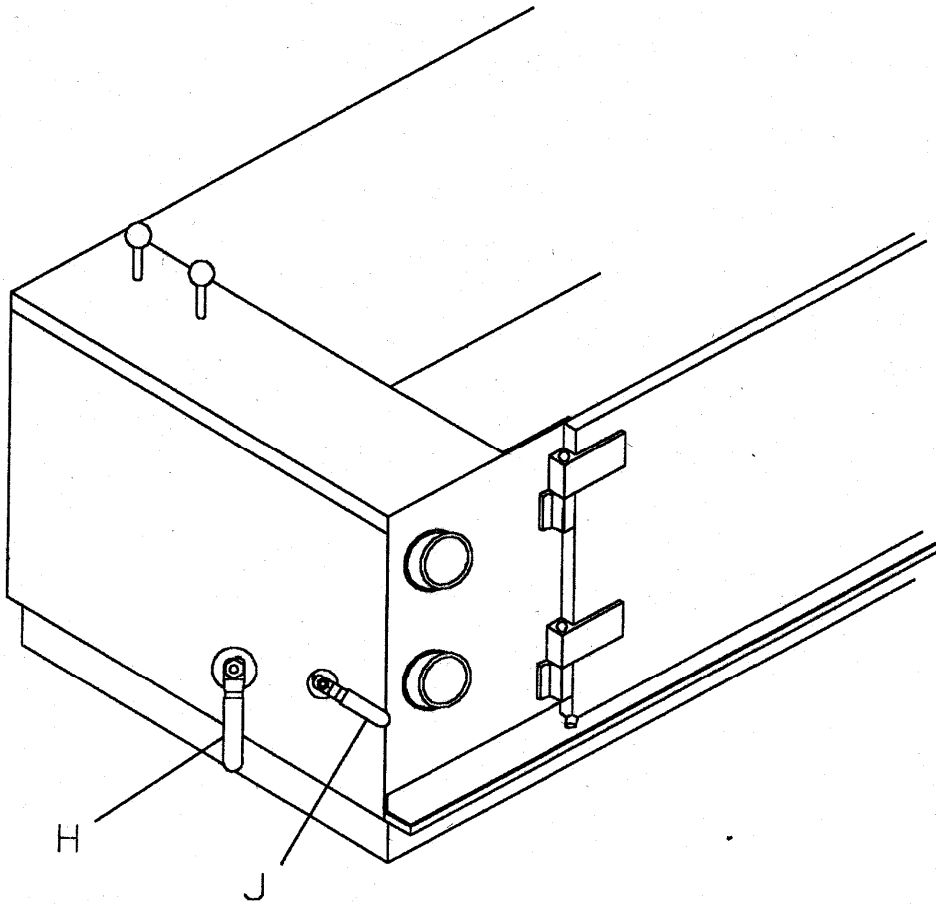

FIG. 4-3
6. TURN THE TANK FILL VALVE TO THE HORIZONTAL “OFF” POSITION (FIG. 4-3-H).
3. OPEN D4 SLIGHTLY, AND MAKE SURE THAT THE DRAINING VALVE (FIG. 4-3-J) FLUSHING FUNCTION IS WORKING WHEN IT IS AT THE HORIZONTAL POSITION -“ON” .
5. TURN THE TANK FILL VALVE (FIG. 4-3-H) TO HORIZONTAL “ON” POSITION , AND PRESS THE DIELECTRIC FLUID CONTROL “ON” SWITCH , CHECK THAT THE WORK TANK FILLS TO THE INDICATED LEVEL?